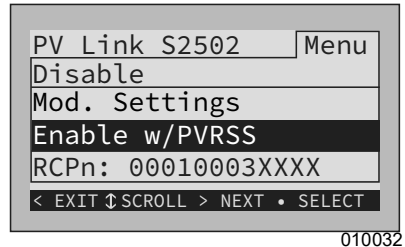

Figure 6-2. Enable w/PVRSS
3. See **Figure 6-2**. Press the center button and select Enable w/PVRSS to enter the Testing PVRSS state.